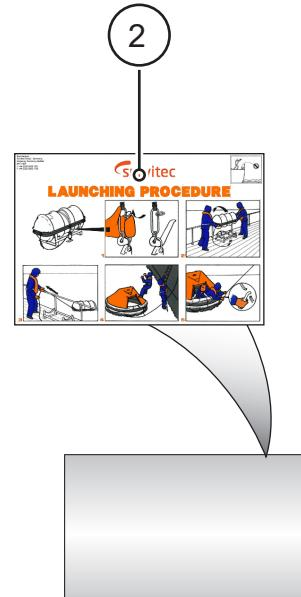

FIGURE 2
- (3) Attach the new Survitec branded labels:
- (a) Refer to **Figure 2** for the location of Survitec branded labels on the TO containers that follow:
- (b) Put the Survitec branded label (*item 2*) into the plastic sleeve which is attached to the container. Refer to **Figure 2**.